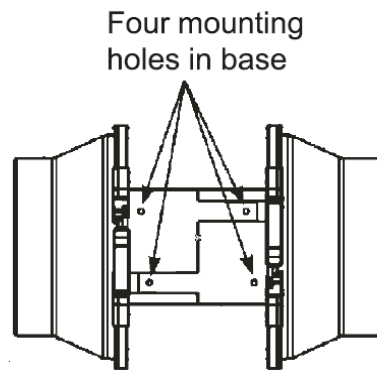

Fig. 2 – Secure Base
4. Secure the housing base to a suitable mounting point using the mounting holes in the base. (Fig.2)